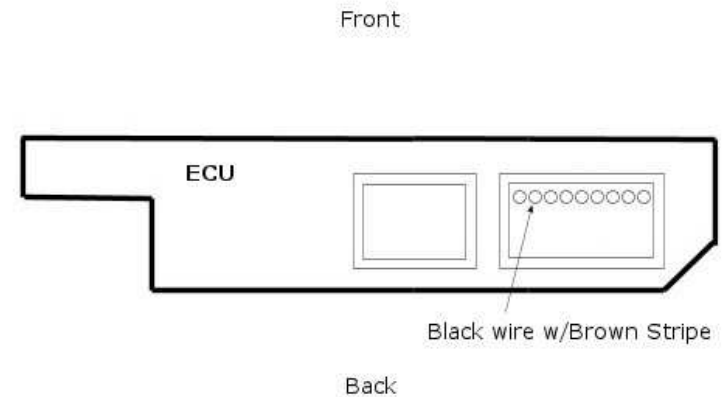

Figure 3
- 4 Pull out black wire with brown stripe. (see Fig. 3)